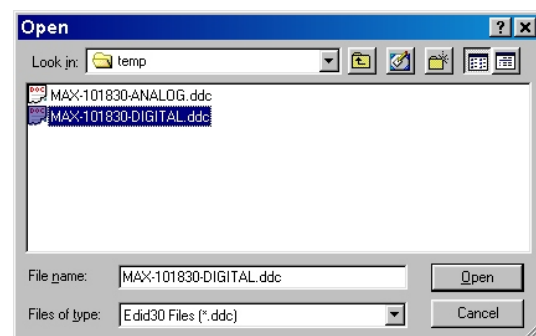

Fig. 44
2. Select the file you want to open as shown in Fig 44.